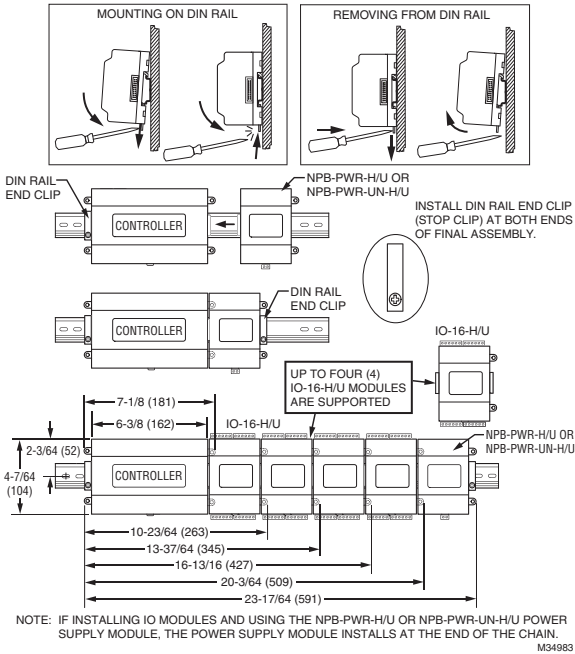

Fig. 1. WEB and CP 300E or 600E Series controller and accessory mounting details.
2. Position the controller on the rail, tilting to hook DIN rail tabs over one edge of the DIN rail (Fig. 1).
7. To keep the final assembly together, secure at both ends with DIN rail end-clips provided by the DIN rail vendor. This also prevents the assembly from sliding on the DIN rail. See Fig. 1.